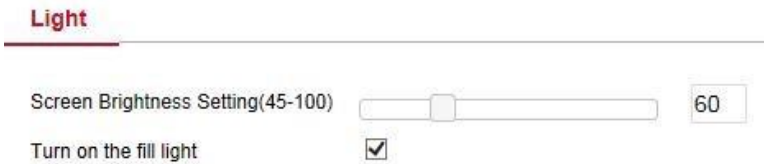

Figure 6-16
Step 1: After logging in to the web page,click "Configuration→System→Light" to enter the light setting interface, as shown in Figure 6-16 below.